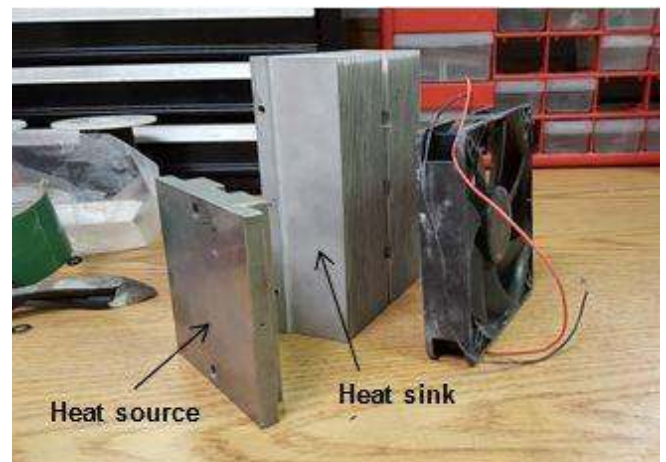

Figure 3: Heat source and sink
5. You will need both a cold surface and a hot surface (a heat sink and a heat source, respectively). Examples of each are pictured in **Figure 3**. The heat source is made of steel and can be heated by either a flame or a hot plate (not shown). The heat sink is made of aluminum and is cooled by a fan (shown in the figure). Heat sinks can also be cooled by water flowing through holes drilled into a solid material.